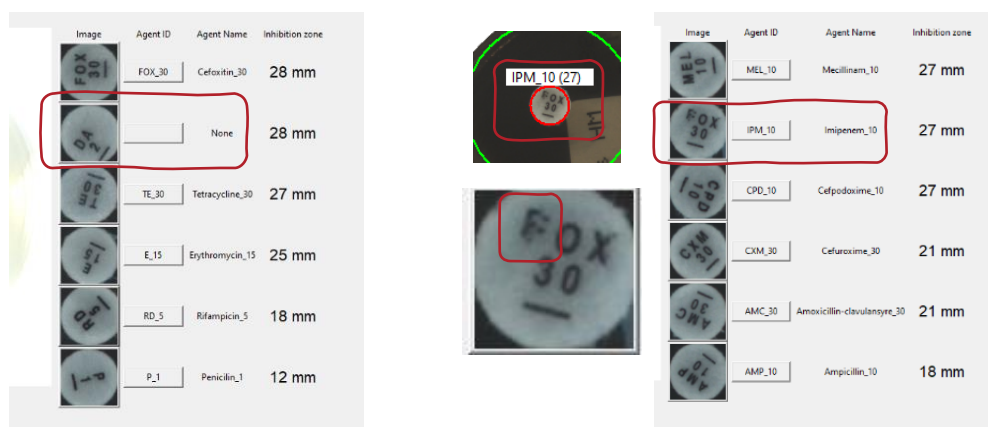

Figure 7 – Example of PD-100 with respectively missing and wrong Agent ID
5. Check that the found antibiotics are correct. If PD-100 cannot identify a disc, the Agent ID is missing or wrong, see examples in Figure 7. The reason can be that the text is very skewed ("DA_2" is not in the centre of the disc) or unclear (the "F" is not clear), or that the Disc ID is not in the database, which can be remedied by PRO Devices A/S, see point 9. Data cannot be saved if a Disc ID is missing.